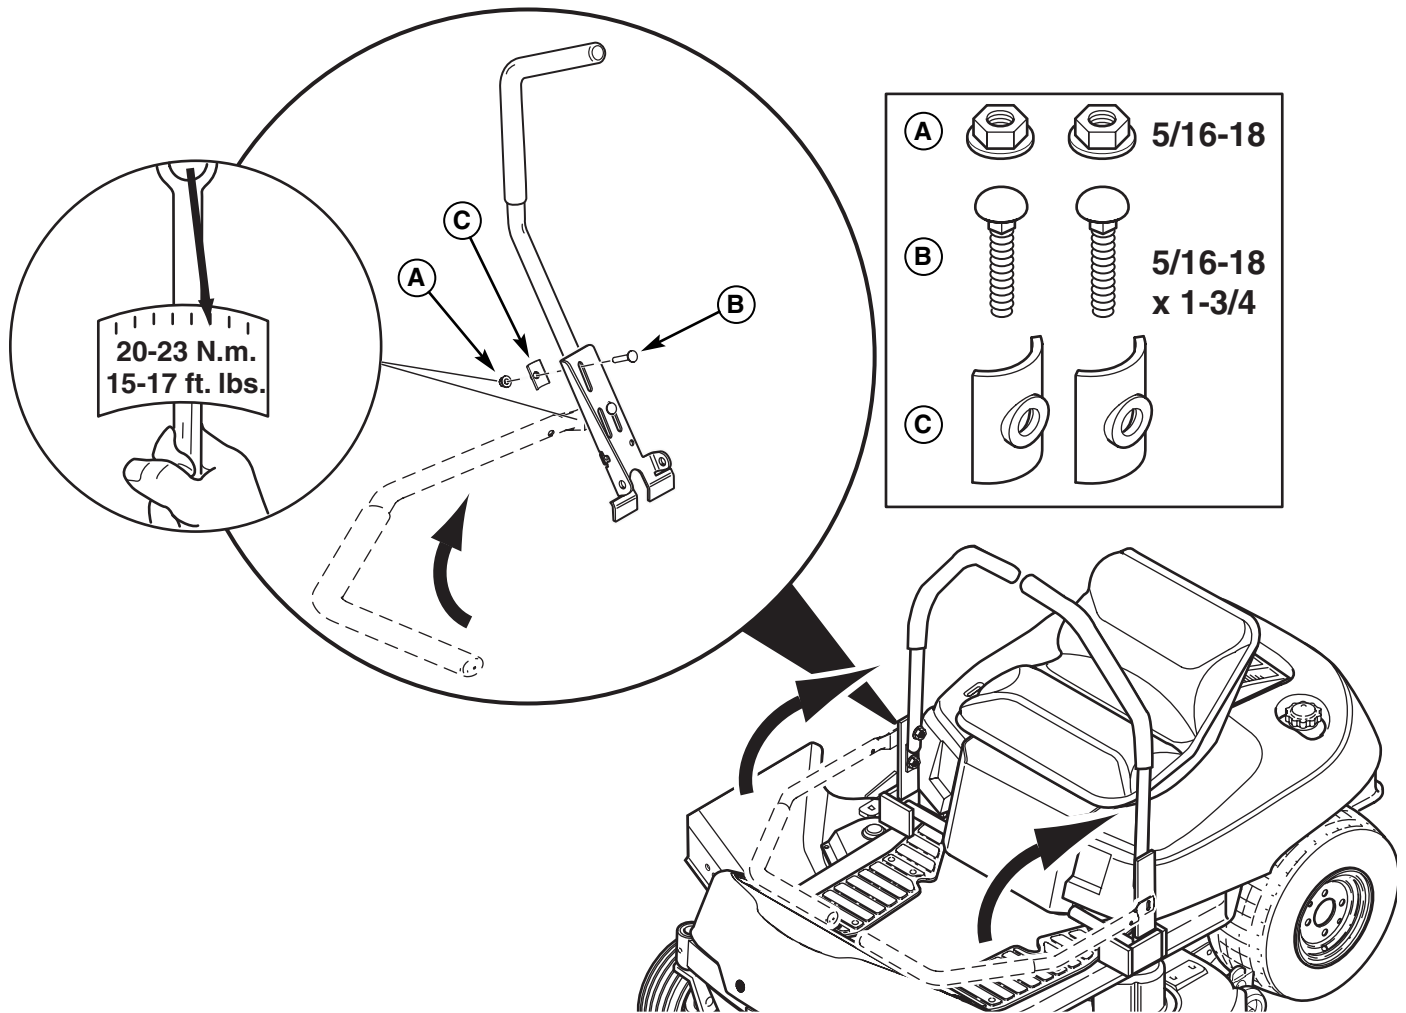

Figure 7. Setting up the ground speed levers
3. Install the noted hardware as shown in Figure 7. Tighten all hardware. Torque to 15-17 ft. lbs. (20-23 N.m.).